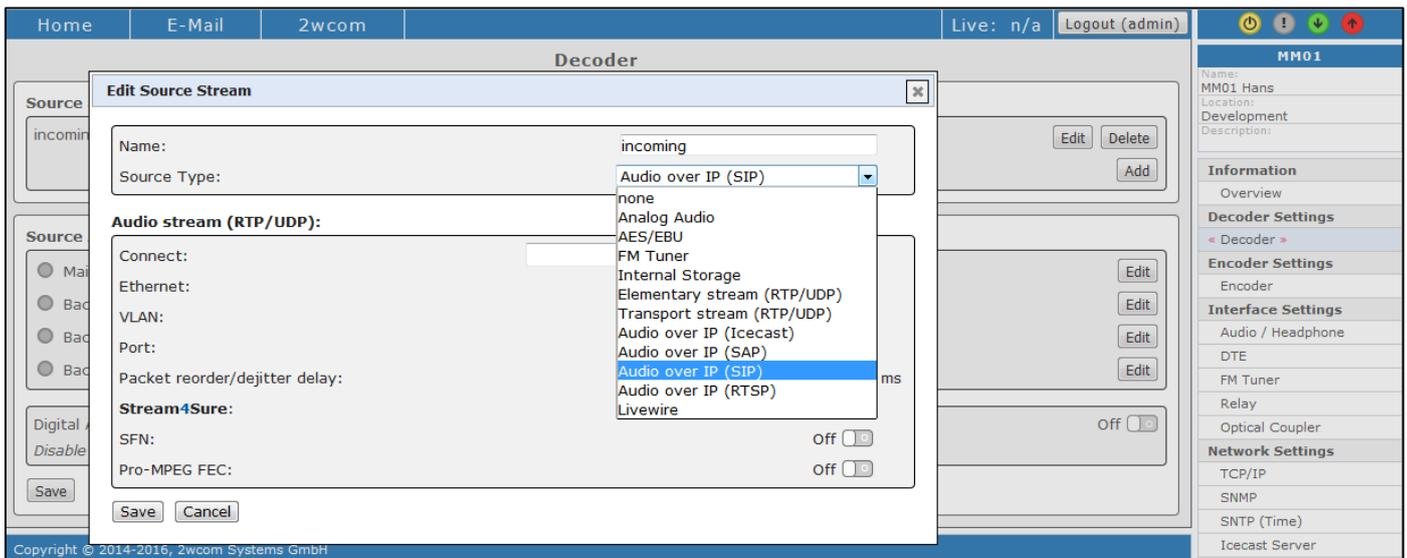

Figure 31: Decoder Settings – Input stream
3. To configure or to change an existing input stream click the **Edit** button. The page *Edit Source Stream* appears (see Figure 31).
4. Define the input stream name and choose the source type for decoding in the field **Source Type** (see Figure 31).
2. Open window *Edit Source Stream* under **Decoder Settings**→**Decoder** as described in the first three steps in section 14.1 (see Figure 31).